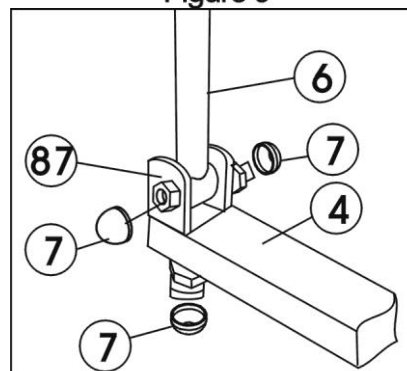

Figure 10
After installed and adjusted the equipment, clip on the cap nut s at the connecting of U-shape brackets (87), Handlebar supports (6) and Pedal support tube (4), (Refer Figure 10)